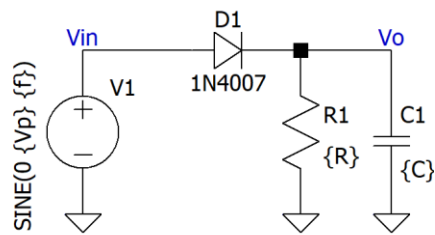

Figure 3.2 HWR with capacitive load
1. Connect the Circuit as shown in Figure 3.2.